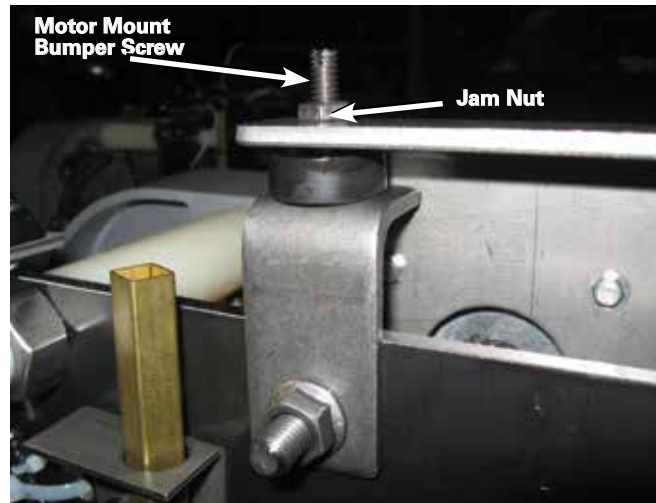

Figure 19. Chain tension.
- Adjust the chain tension by turning the motor bumper screw with a blade screw driver. Adjust the motor mount bumper screw until 1/4" deflection exists when exerting pressure on the chain. Secure the motor mount bumper screw in place with the jam nut using a 7/16" wrench. Refer to Figure 19.